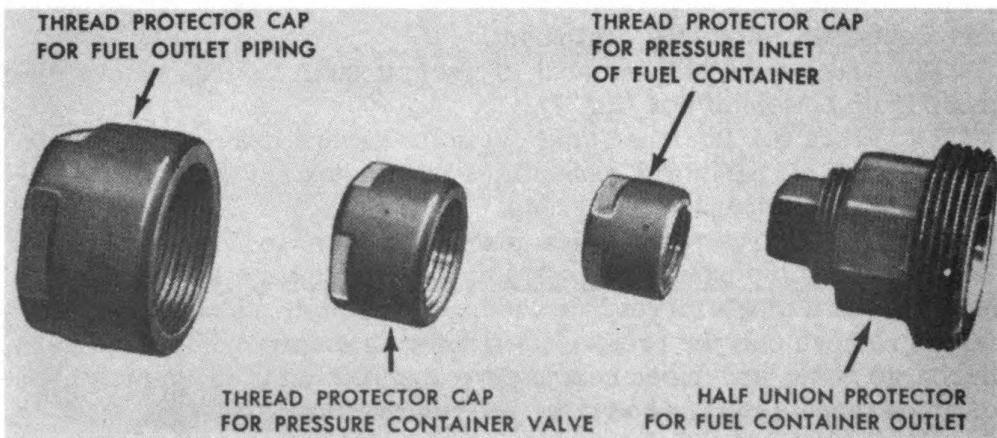
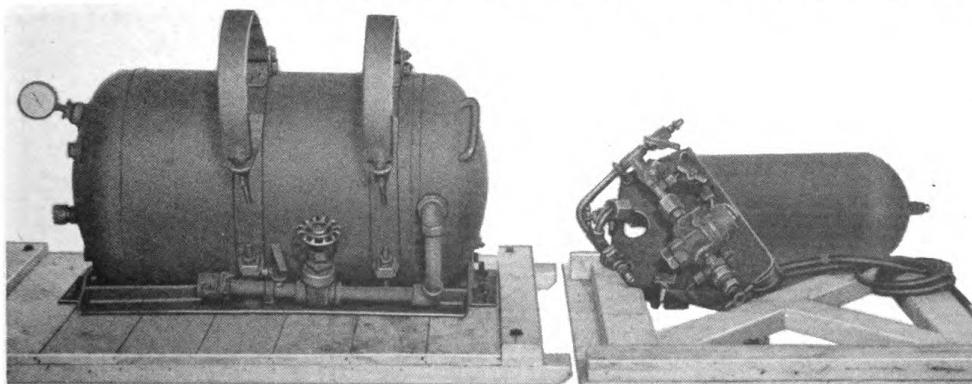

Fig. 8. Thread protector caps and half union protector.
Fig. 10. Pressure container, loop, pressure line plate, bleed hose, and discharge hose removed from sponson fuel group.
- (3) Remove the jam nut and the nut from each pressure container strap. Do not push bolts entirely out of holes.
- (4) Attach thread protector cap (fig. 8) to pressure container valve outlet.
(8) Disconnect discharge hose from safety head by applying wrench to hex nut of union.
(9) A synthetic rubber washer separates the two metal surfaces in seat of union between fuel container and pressure line. Make certain this washer is present. Using wrench, remove the three stud bolts and the lock washers which hold pressure line plate to fuel container. Remove pressure line plate (fig. 10). With synthetic rubber washer in position, screw thread protector cap (fig. 8) on pressure inlet threads of fuel container.
(10) Remove fuel line clamp from fuel outlet piping by unscrewing two screws with screw driver.
(11) Using two wrenches, hold the back wrench steady and pull front wrench clockwise to loosen hex nut on union between fuel container and fuel outlet piping. Attach thread protector to outlet pipe (fig. 8). At-
tach half union protector to fuel outlet (fig. 8). Tighten union nut to protect seat of union.